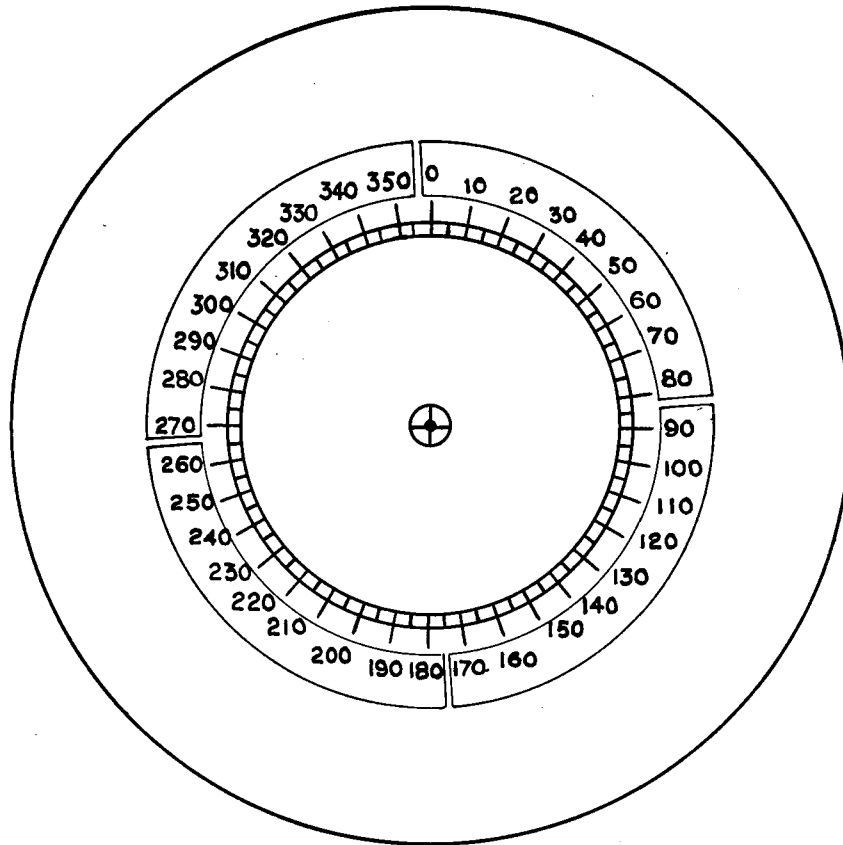

FIG.3.
1. The screen calibration markings shall be made by sticking on an approved transparent material. The markings shall be as shown in Figure 3. The calibration must be sufficiently accurate to pass the relevant tests given. At Type Approval the scale will be subjected to mechanical and tropical tests.  The four major bearings 0°, 90°, 180°, 270°, shall be accurate to +0.25°. The scale is graduated to correct for octantal error. (See table on Page 6 for octantal corrections).